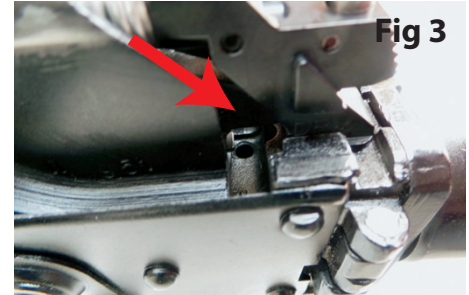

Fig 3
3. If it doesn't touch (Fig 3), don't use the **Long Spacer** and try again with the next shorter **Spacer**.